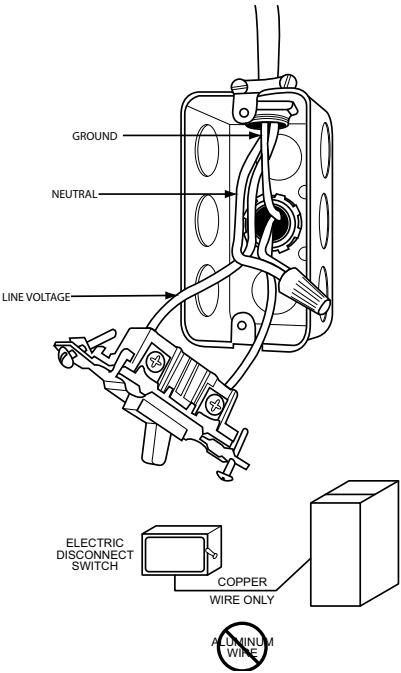

Fig. 39 – Field-Supplied External Electrical Box on Furnace Casing
Do not connect aluminum wire between disconnect switch and furnace. Use only copper wire, see Fig. 39.
5. Fasten the external electrical box to the furnace casing using two (2) sheet metal screws.
11. Connect field power and neutral leads to furnace power leads inside the external electrical box, see Fig. 39.
1. Drill two (2) 1/8-in. (3 mm) pilot holes through the dimples in the furnace casing near the 7/8-in. knockout or plug on the side of the casing. Do not remove the knockout or plug in the side of the casing.
9. Connect field power and neutral leads to furnace power leads inside the external electrical box, see Fig. 39.
6. Connect power cord power and neutral leads to furnace power leads, see Fig. 39.
5. Connect field power and neutral leads to furnace power leads, see Fig. 39.